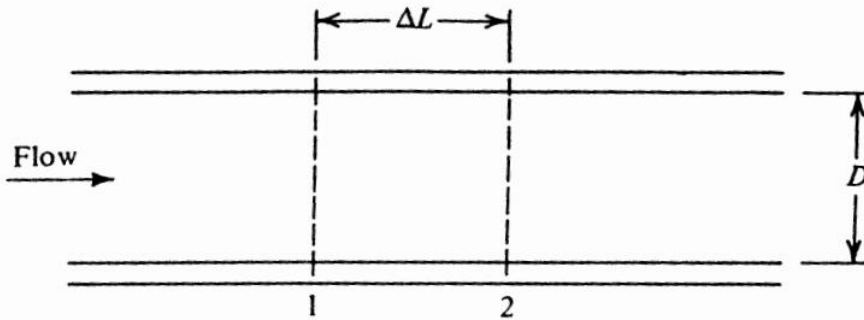

Figure 13-4 Incremental length of capillary tube.
The equations relating states and conditions at points 1 and 2 in a very short length of capillary tube in Fig. 13-4 will be written using the following notation:
The fundamental equations applicable to the control volume bounded by points 1 and 2 in Fig. 13-4 are (1) conservation of mass, (2) conservation of energy, and (3) conservation of momentum.
13-5 Calculating the length of an increment The essence of the analytical calculation method is to determine the length of the increment 1-2 in Fig. 13-4 for a given reduction in saturation temperature of the refrigerant. The flow rate and all the conditions at point 1 are known, and for an arbitrarily selected temperature at point 2 the remaining conditions at point 2 and the ΔL will be computed in the following specific steps: